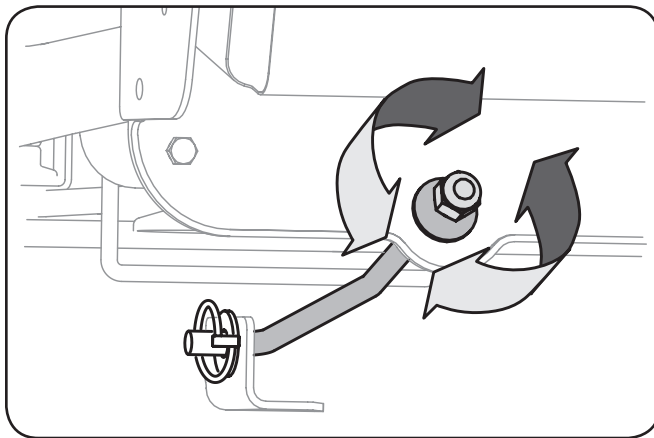

Figure 6-4
1. Locate the nut on the front side of the stabilizer bracket. See Fig. 6-4.